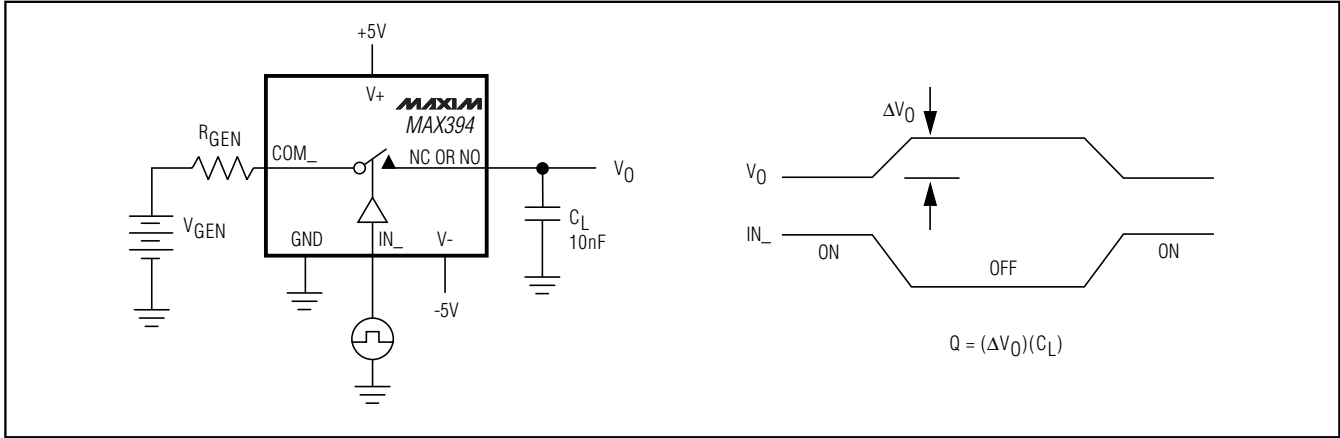

Figure 6. Charge Injection
**Note 6:** See Figure 6. Off-isolation =  $20 \log_{10} V_{COM}/V_{NC}$  or  $V_{NO}$ . VCOM = output, VNC or VNO = input to off switch.